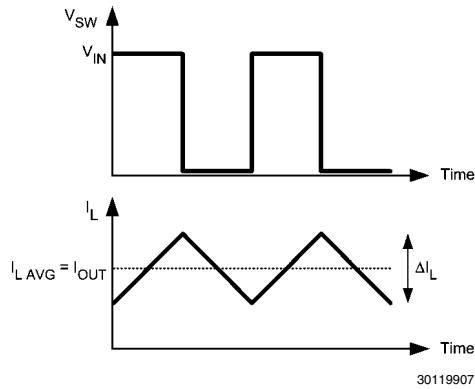

FIGURE 8. Switch and Inductor Current Waveforms
The inductor (L) used in the application will influence the ripple current and the efficiency of the system. The first selection criteria is to define a ripple current, ΔI_L . In a buck converter, it is typically selected to run between 20% to 30% of the maximum output current. *Figure 8* shows the ripple current in a standard buck converter operating in continuous conduction mode. Larger ripple current will result in a smaller inductance value, which will lead to a lower series resistance in the inductor, and improved efficiency. However, larger ripple current will also cause the device to operate in discontinuous conduction mode at a higher average output current.